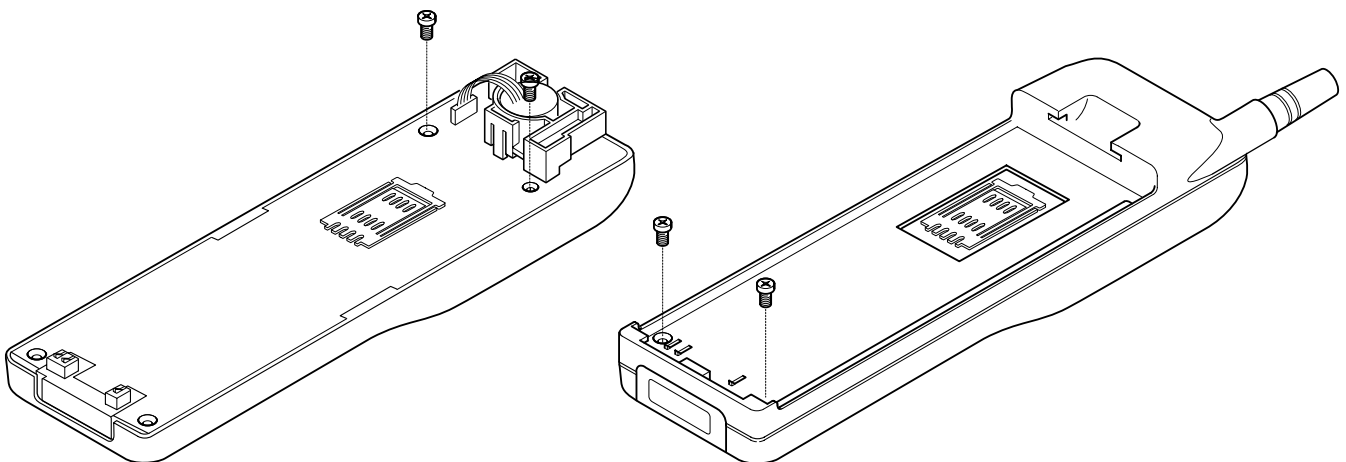

Figure 12: Case reassembly
1. Figure 12 Care must be taken when reinstalling the back onto the telephone case. Ensure that the securing screws are not over-tightened as this may affect the operation of the keypad.